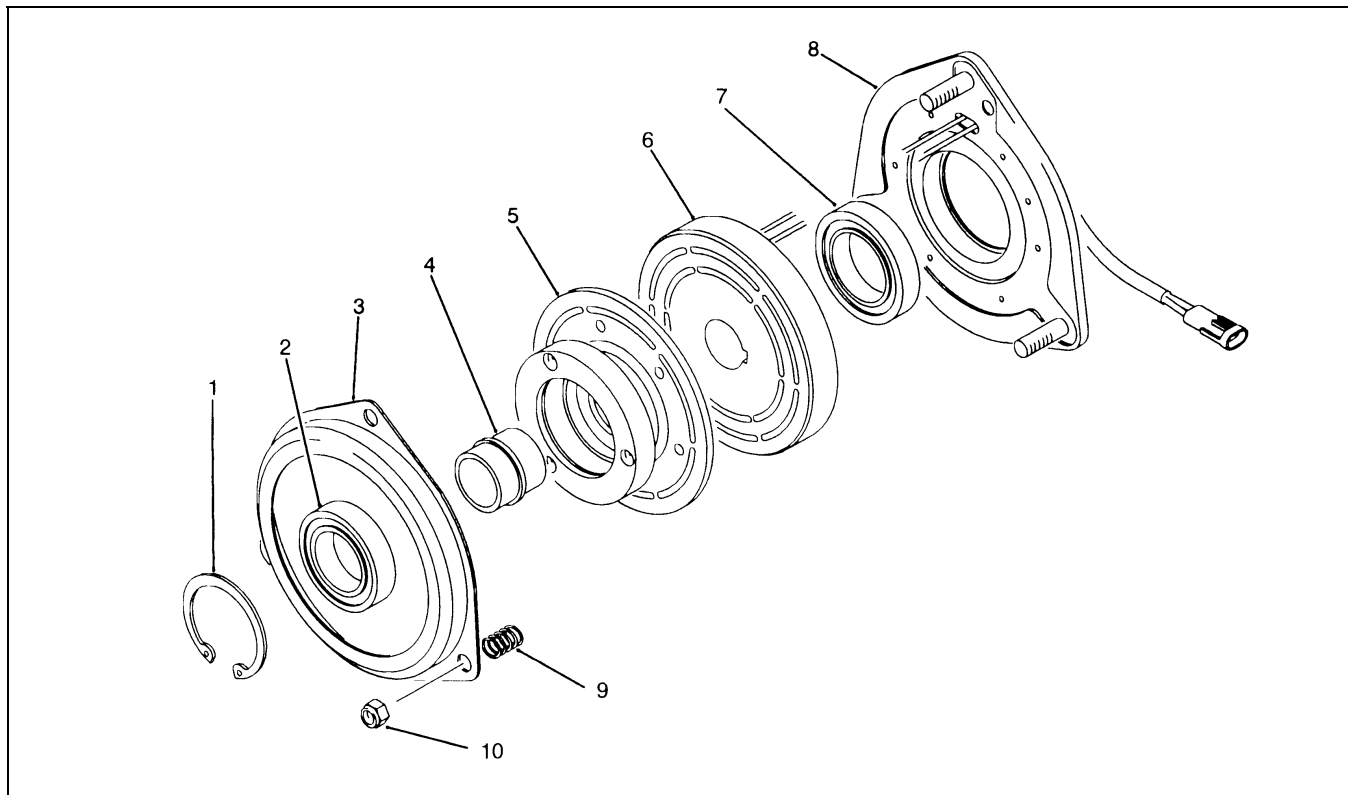

Figure 15
2. Remove the three (3) lock nuts (Fig. 15, Item 10). Remove the brake plate (Item 3) and three (3) springs (Item 9).
5. Install the three (3) springs (Item 9) over the studs. Install the brake plate (Item 3) and the three (3) locknuts (Item 10).